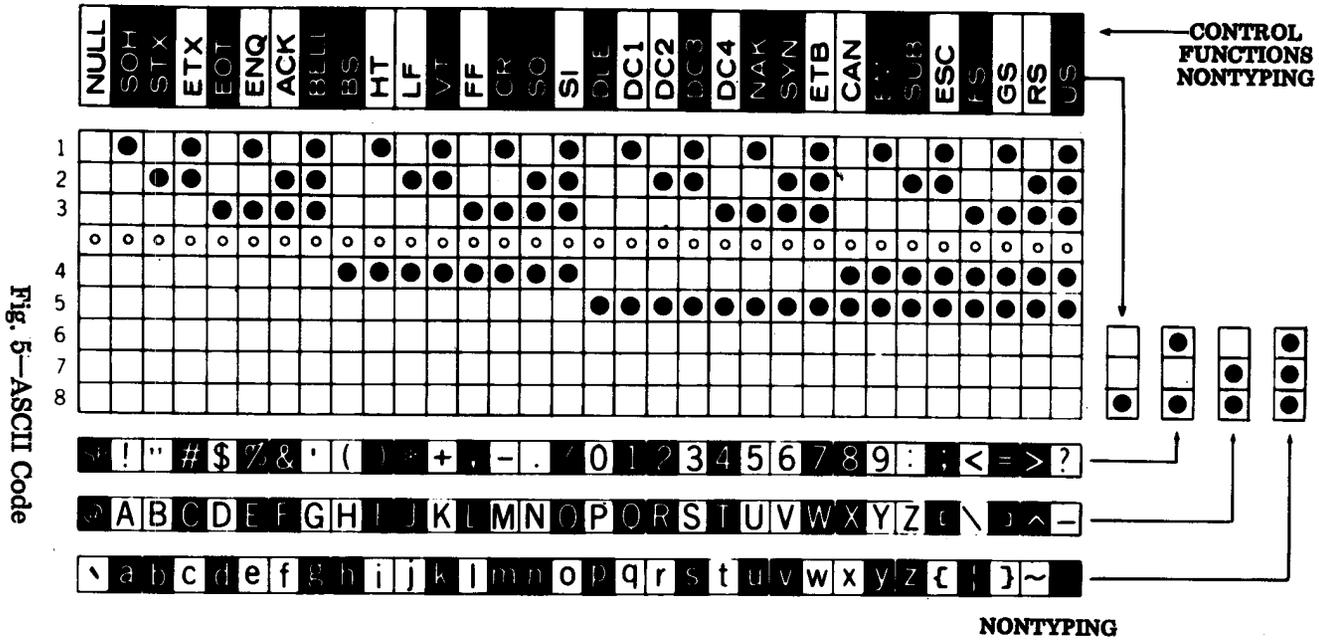

Fig. 5—ASCII Code
15. SID Character 1 — S2 Card Character (Specify) ____ (See Fig. 5.)	Straps
16. SID Character 2 — S2 Card Character (Specify) ____ (See Fig. 5.)	Straps
Character (Specify) _____ (See Fig. 5.)
b. Other Character (Specify) (See Fig. 5.)